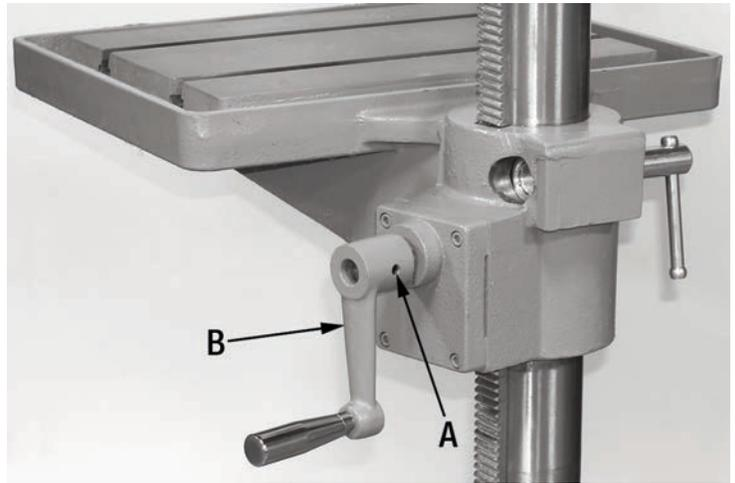

FIGURE 6
1. Align the set screw (A) Fig.6 in the table height adjustment handle (B) with the flat portion of the handle shaft.
2. Slide the table height adjustment handle (B) onto the shaft and tighten the set screw (A) using a 4mm hex. key.